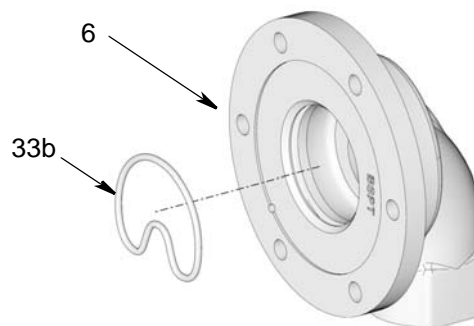

FIG. 37
- c. Install the new black o-ring (33b) first. Use your fingers to press it into the groove located inside the neck of the inlet assembly (6) (FIG. 37).